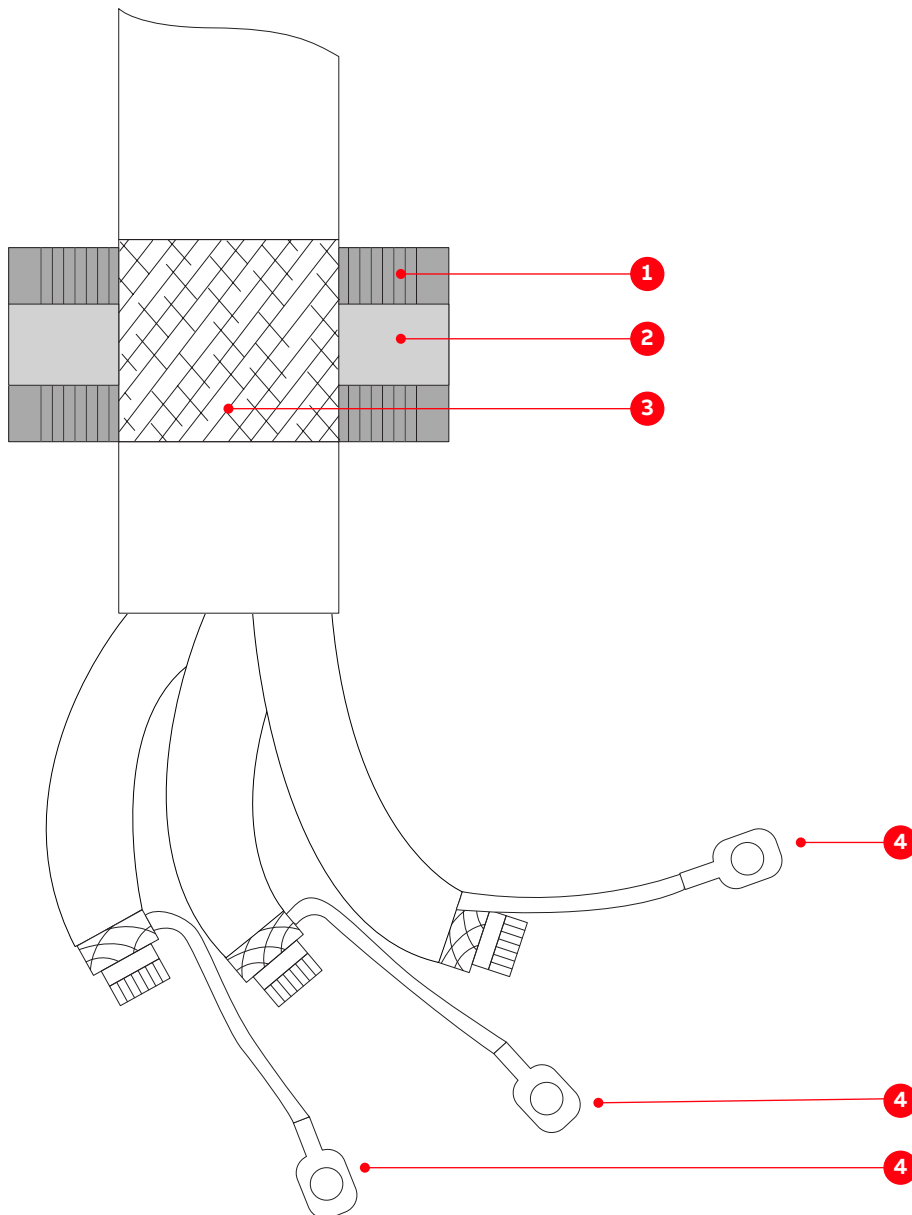

Figure 7-15: Preparing control cables for sealing modules
2. Prepare the cables with an outer cable screen for EMC bonding with the metal enclosure of the cabinet as illustrated in Fig. 7-15.